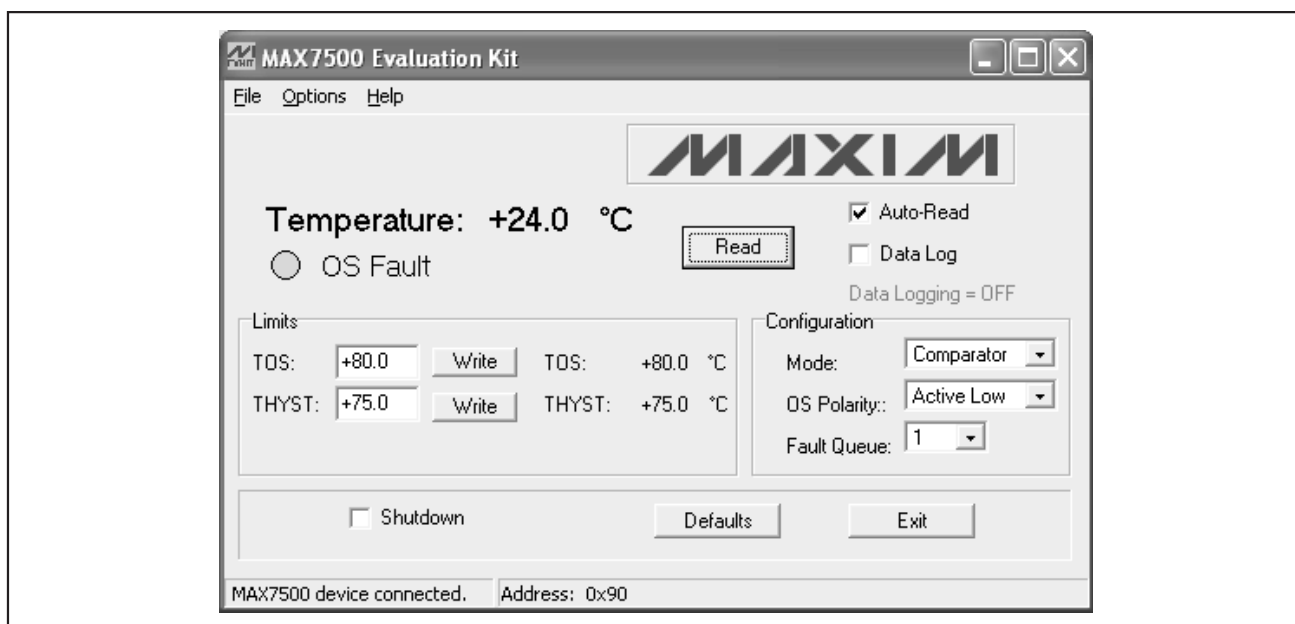
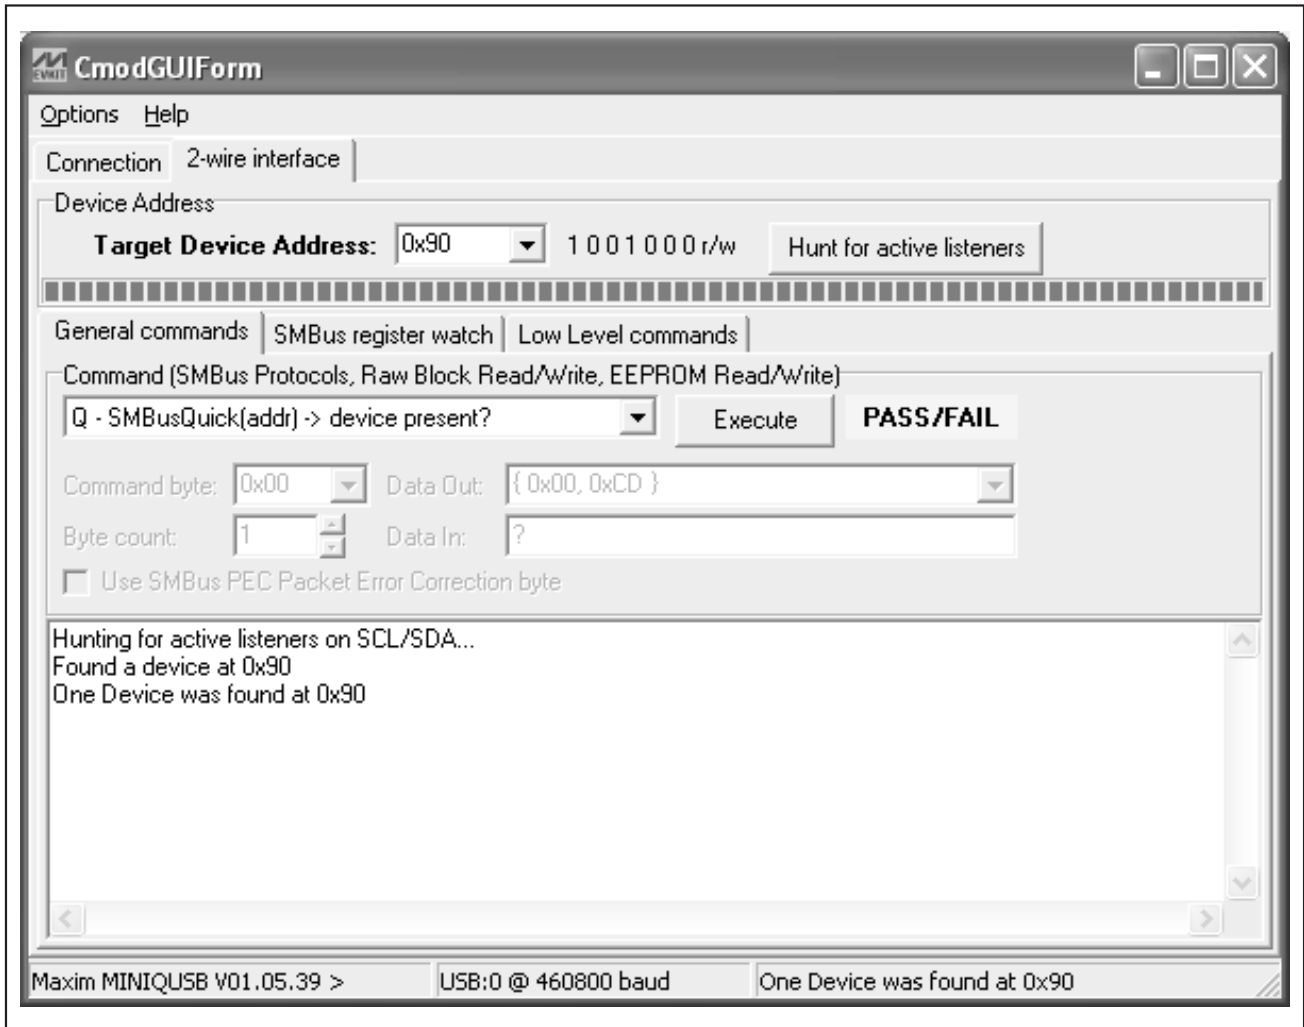

Figure 1. MAX7500 EV Kit Software Main Window
Figure 2. Command Module Interface Window
- 8) Normal device operation is verified when **MAX7500 device connected** is displayed in the bottom-left status bar on the MAX7500 EV kit main window (Figure 1).
The MAX7500 EV kit software accurately reads temperature data with a 0.5°C resolution, sets the upper and lower temperature threshold limits, and configures the behavior of the open-drain overtemperature shutdown (OS) output. The MAX7500 supports eight different I²C slave addresses; configure JU2, JU3, and JU4 to select between different addresses. Check the **Shutdown** checkbox (Figure 1) to shut down the MAX7500 internal blocks. By pressing the **Defaults** button, the device is restored to its power-on-reset (POR) state. Refer to the MAX7500-MAX7504 IC data sheet for further details.
Temperature data is displayed on the software main window (Figure 1). To read temperature, press the **Read** button and the sensor temperature is displayed on the software interface with a 0.5°C resolution. The **Auto-Read** checkbox is provided to continuously read and display the temperature and limit registers' data when checked.
There are two methods for communicating with the MAX7500, through the MAX7500 EV kit software main window (Figure 1), or through the interface window available by selecting the **Options | Interface Diagnostic Window** menu item from the menu bar. The Maxim command module interface window (Figure 2) includes a **2-wire interface** tab that allows for execution of the frequently used commands.